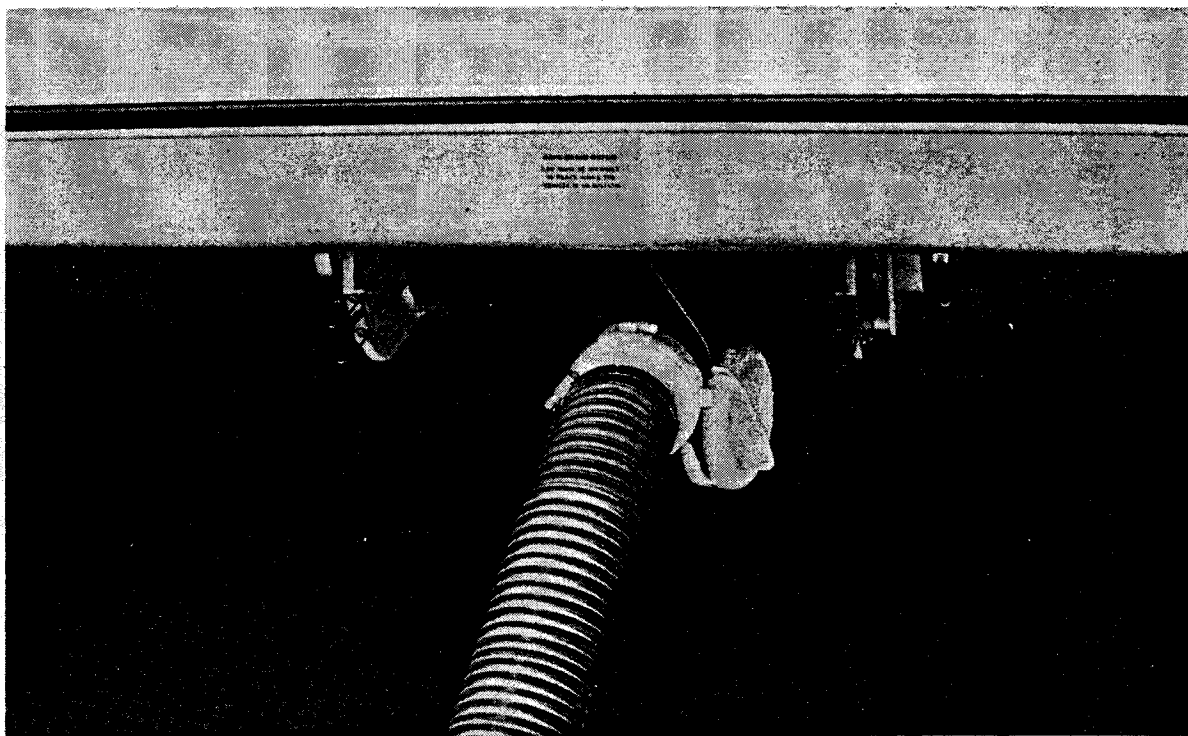

Figure 9-5. Typical Drain Hose Connection
5. Connect drain hose to outlet. (See Figure 9-5).